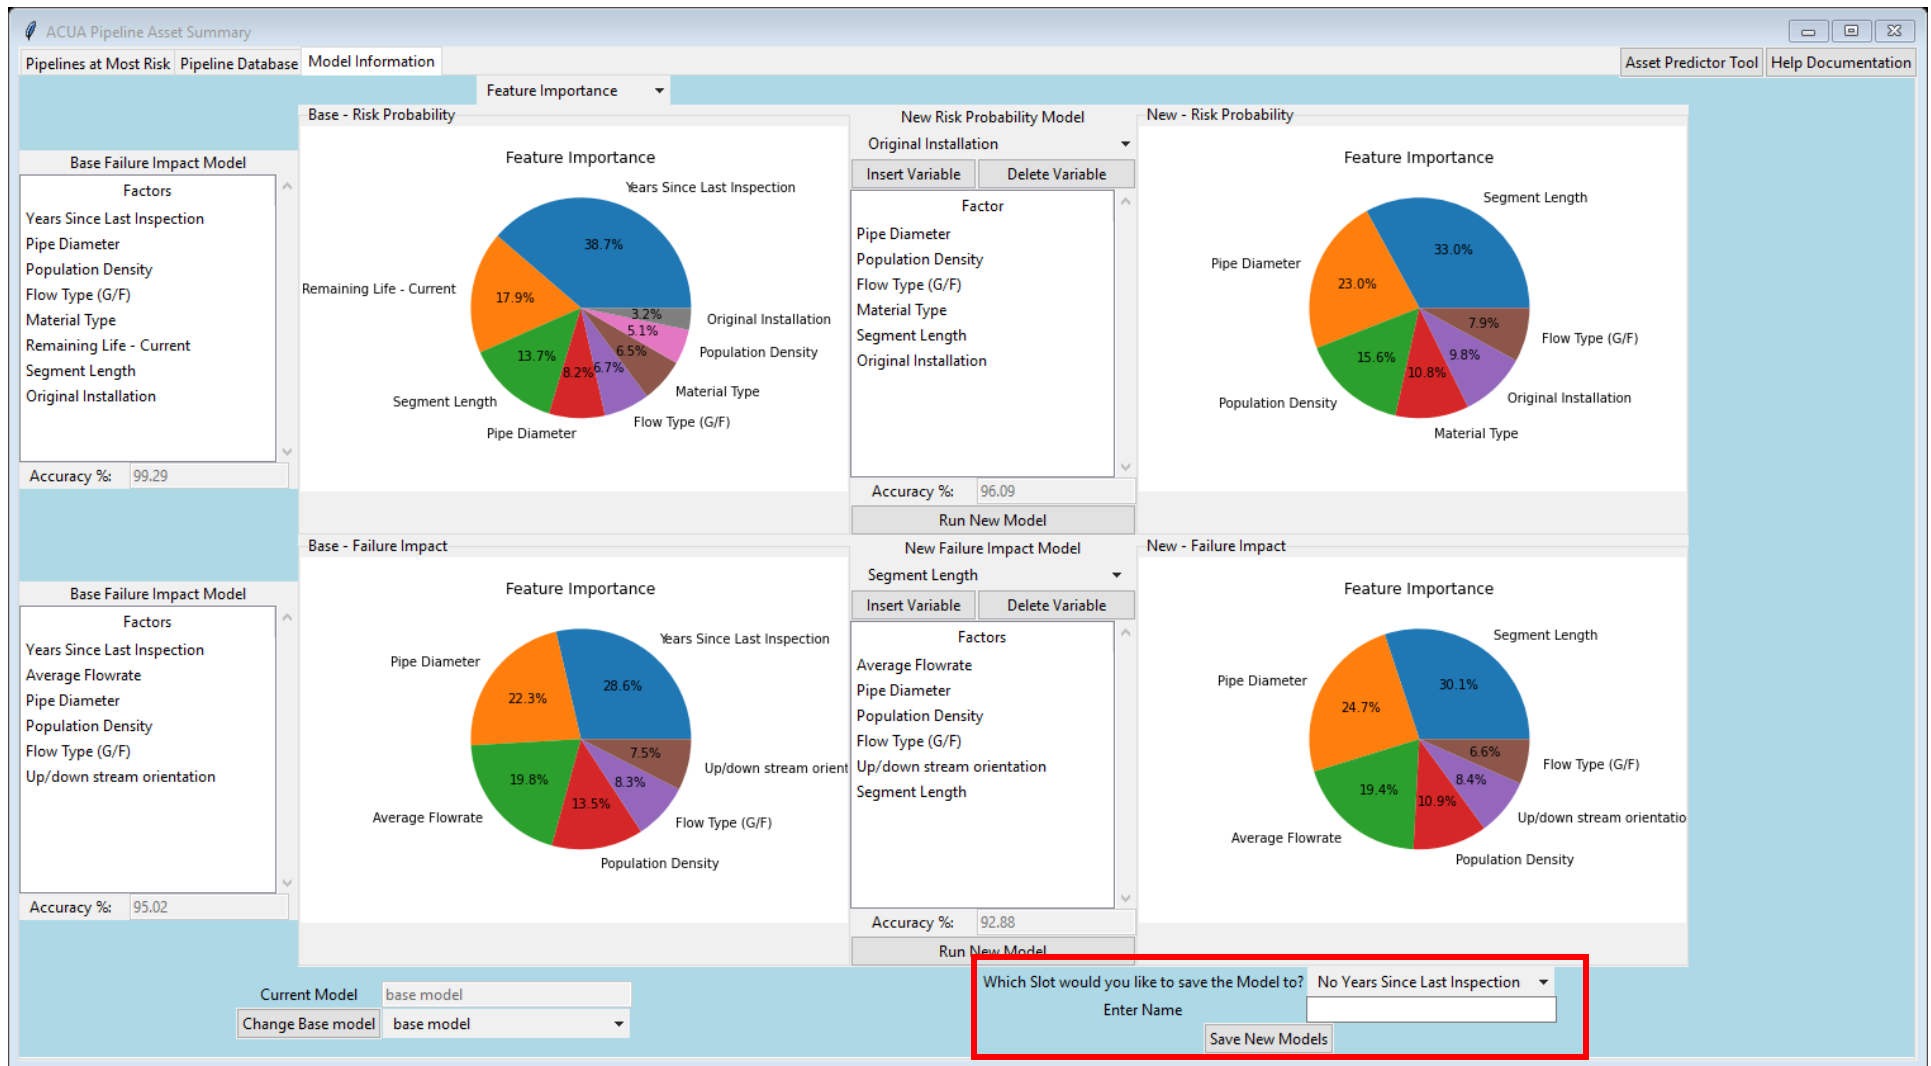

Figure 17: Showing the Feature importance function from the drop-down menu
2. The red outline in Figure 17 allows for the user to save the new models to any unused slot or overwrite any model besides the base model